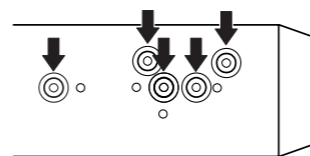
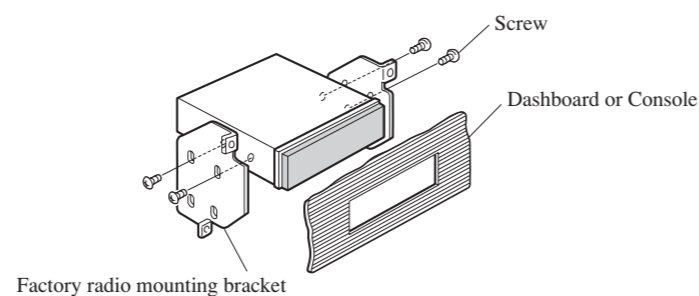

Fig. 11
Fig. 12
**2. Fastening the unit to the factory radio mounting bracket. (Fig. 11) (Fig. 12)**